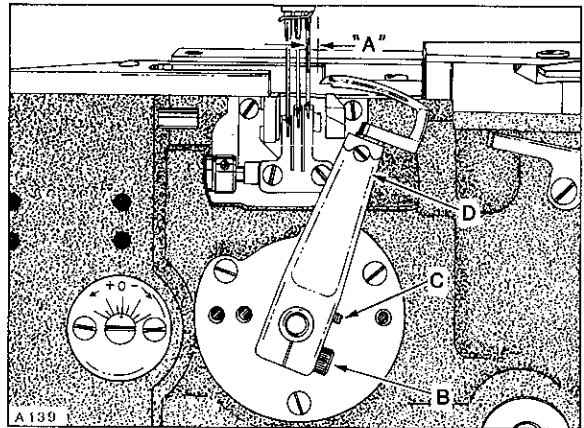

Fig. 9
If not previously done, insert a new set of needles. With looper at EXTREME right end of travel, distance from centerline of RIGHT needle to point of looper should be dimension ("A", Fig. 9); see CHART. Adjustment can be made by loosening screw (B) and turn screw (C) clockwise to increase looper gauge or counterclockwise to decrease. Apply pressure against upper portion of looper holder (D) to the left while making this adjustment and locking with screw (B). Applicable looper gauge can be used advantageously in making this adjustment. Looper must also be set so, as it travels to the left behind the needles, NOT to contact, but with a clearance of .002 - .004 inch (.051 - .102mm).
| MACHINE STYLE | DIMENSION "A" FIG. 9 | LOOPER GAUGE NO. |